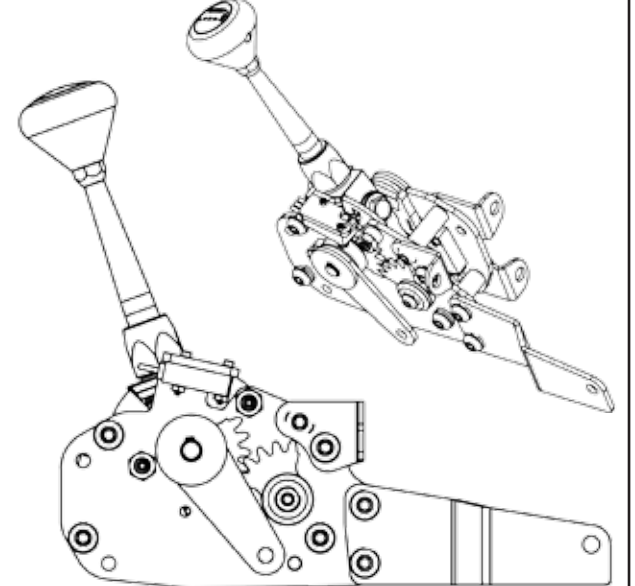

Fig. 2
Step 3: As mentioned earlier, the shifter mounting brackets are installed at the factory on the bottom of the shifter. If you wish to mount the shifter to the underside of a console or in the dashboard, you can reposition the brackets as needed. Remove both brackets from one side of the shifter assembly. DO NOT REMOVE ALL FOUR BRACKETS AT THE SAME TIME! There are several different mounting possibilities for the brackets. **Fig. 2** Position them how you want and reinstall the bolts, making sure that the longer bolts go into the threaded spacers that hold the shifter together.